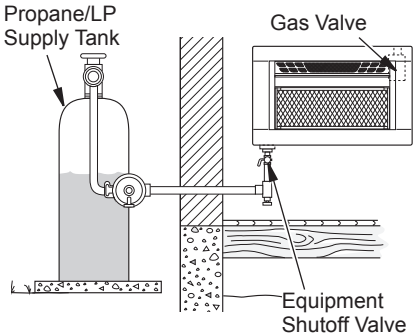

Figure 19 - Checking Gas Joints for Propane/LP Gas
3. Check all joints from gas supply (see Figure 19 or 20) to equipment shutoff valve. Apply a noncorrosive leak detection fluid to all joints. Bubbles forming show a leak.
4. Check all joints from equipment shutoff valve to control valve (see Figure 19 or 20, page 16). Apply a noncorrosive leak detection fluid to all joints. Bubbles forming show a leak.